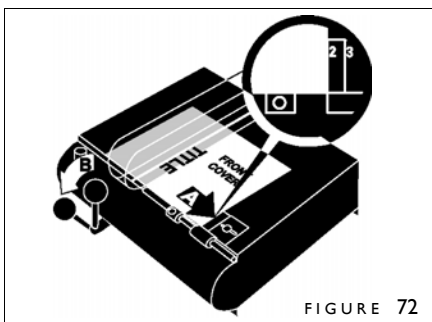

FIGURE 72
- Slide your cover over again so its right edge (A) stops against step 2 (figure 72). Push the Lever to the left (B) to make a score. Remove your cover.